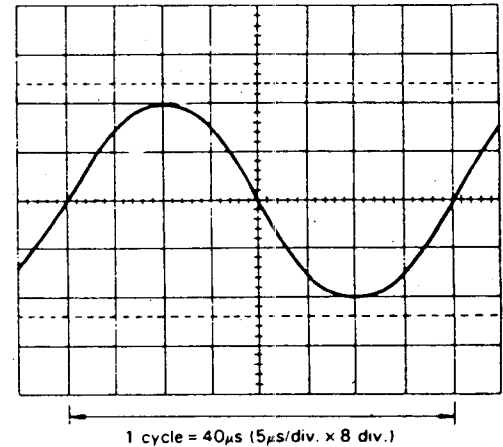

Fig. 15 Frequency Measurement.
(Refer to Fig. 15)
1. Set up the oscilloscope to display one cycle of waveform (see Fig. 15).
In the example shown in Fig. 15, a period of 40 μs is observed. Substituting this value into the above equation, the frequency is calculated as follows: